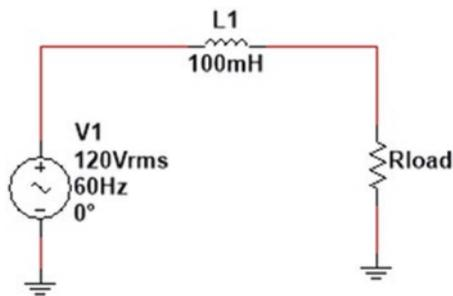

Fig. 1.364 Circuit of Exercise 7
7. Use LTspice to find the value of the load resistor R_{load} (Fig. 1.364) which consumes the maximum power.